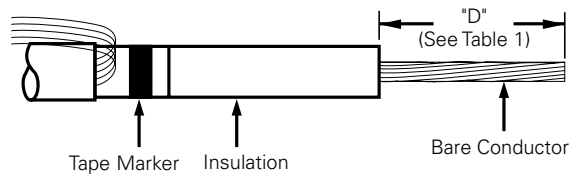

Figure 6. Line illustration of bare conductor length.
- Remove insulation exposing bare conductor to length of "D". (Refer to Figure 6 and Table 1 to determine variable "D" length.)